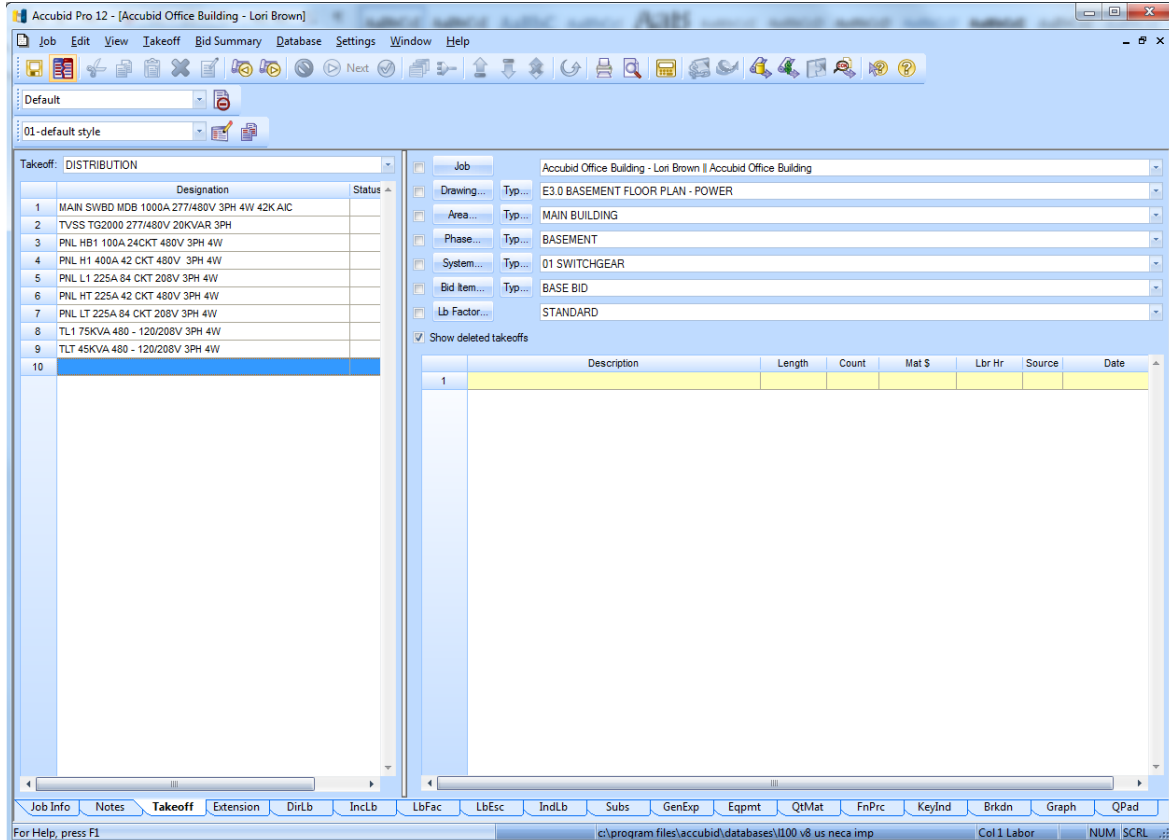

Figure 12
1. To takeoff the designation MAIN SWBD MDB 1000A 277/480V 3PH 4W 42K AIC set the breakdown as shown in Figure 12.